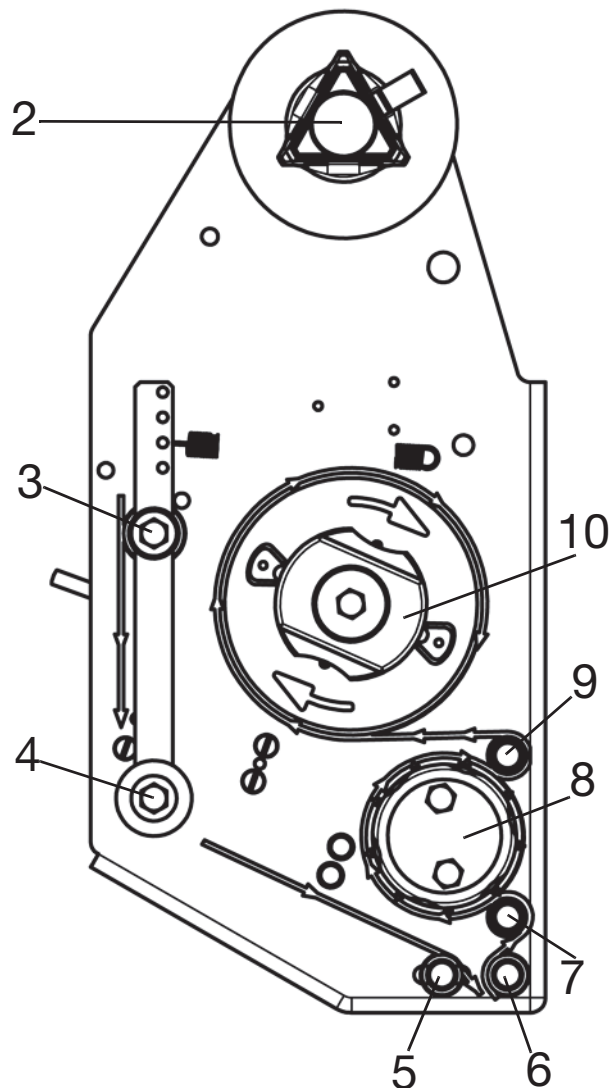

Fig. 5-12 2 Spindle
- Thread the loop tape according to the arrows shown in Fig. 5-12.
- Threading sequence in accordance with Fig. 5-12:
- Guide the loop tape around the outside of the guide pulley (3) and the jockey roller (4).
- Guide the loop tape around the inside of the guide pulley (5).